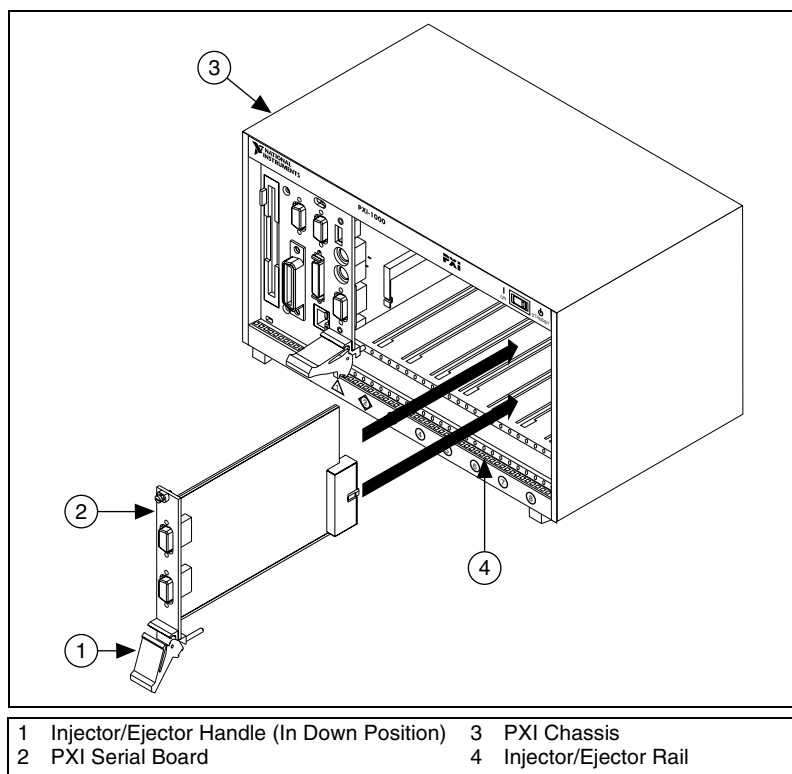

Figure 3-5. Installing the PXI Serial Board
5. Insert the PXI serial board into the 5 V slot. Use the injector/ejector handle to fully inject the device into place. Figure 3-5 shows how to install the PXI serial board into a PXI or CompactPCI chassis.